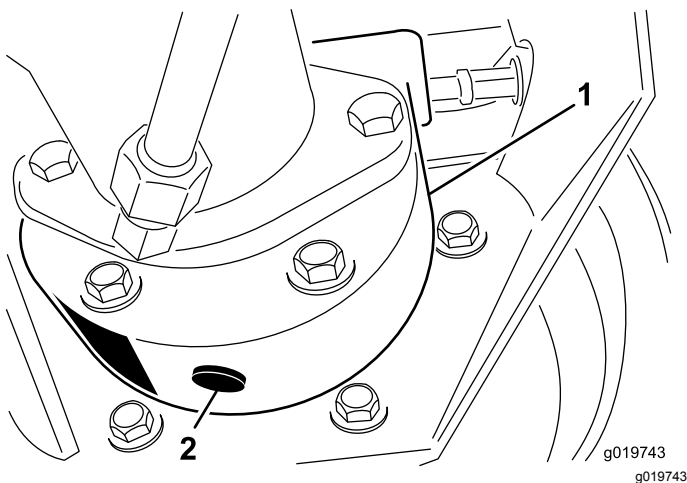

Figure 82
3. Place a drain pan under the brake housing, remove the drain plug, and allow the oil to drain (Figure 82).